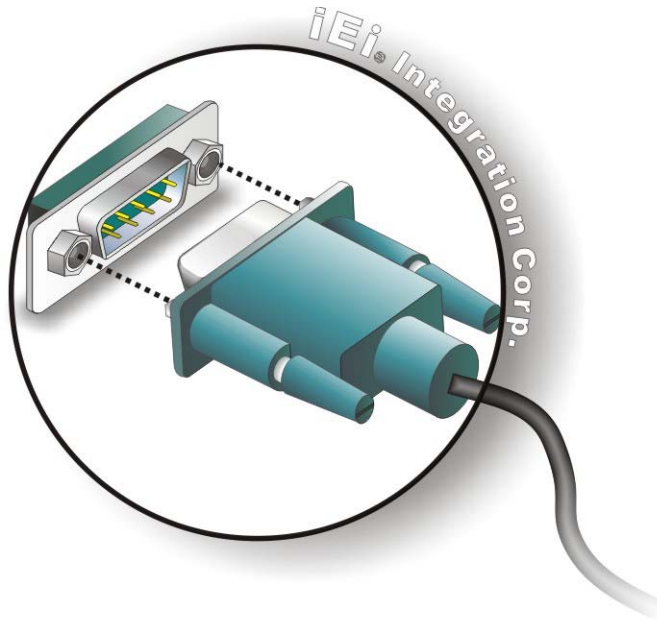

Figure 4-24: Serial Device Connector
- Step 2:** Insert the serial connector. Insert the DB-9 connector of a serial device into the DB-9 connector on the external peripheral interface. See **Figure 4-24**.